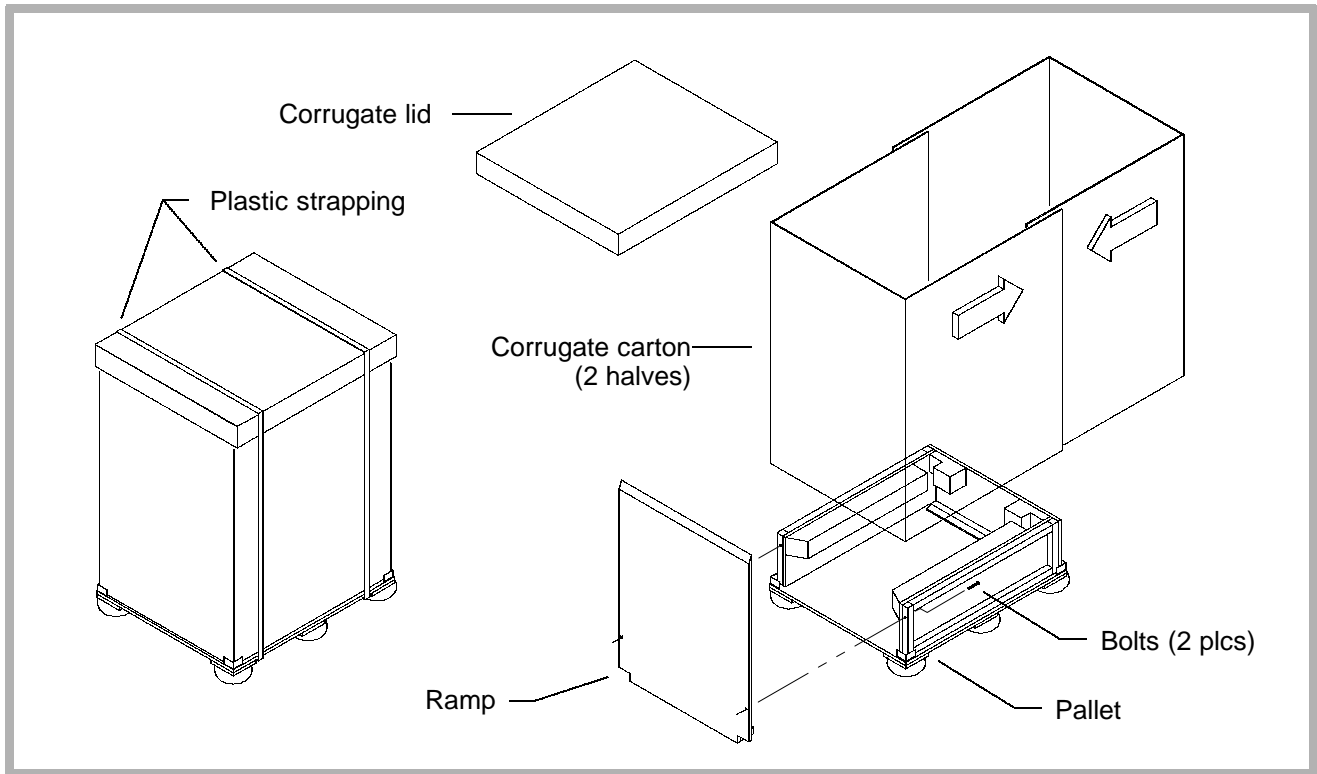

Figure 5-3. Corrugate Crate Details
2. Remove (cut) the two plastic strapping bands from around the corrugate container (Figure 5-3).